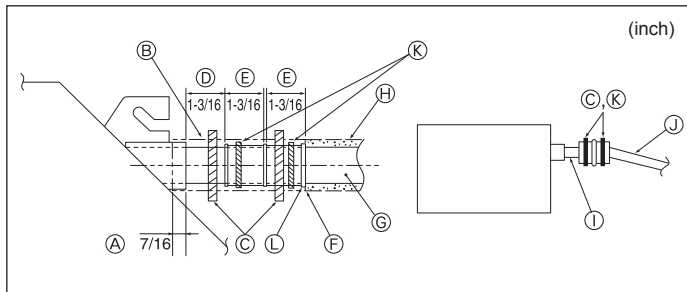

Fig. 4-6
1. Connect the drain socket (supplied with the unit) to the drain port. (Fig. 4-6) (Affix the tube using PVC adhesive then secure it with a band.)